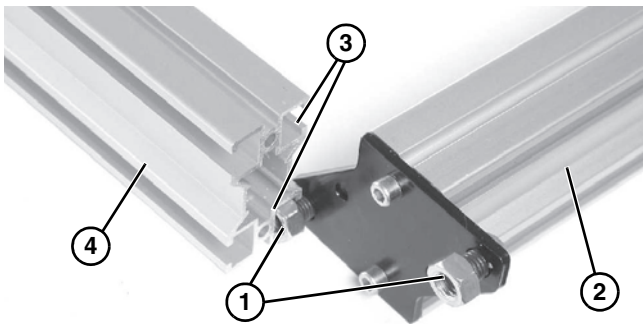

Figure 4
4. Align hex nuts (**Figure 4, item 1**) on crossmember (**Figure 4, item 2**) to t-slots (**Figure 4, item 3**) at top of stand leg (**Figure 4, item 4**). Slide crossmember to bottom of stand leg. Do not tighten screws.